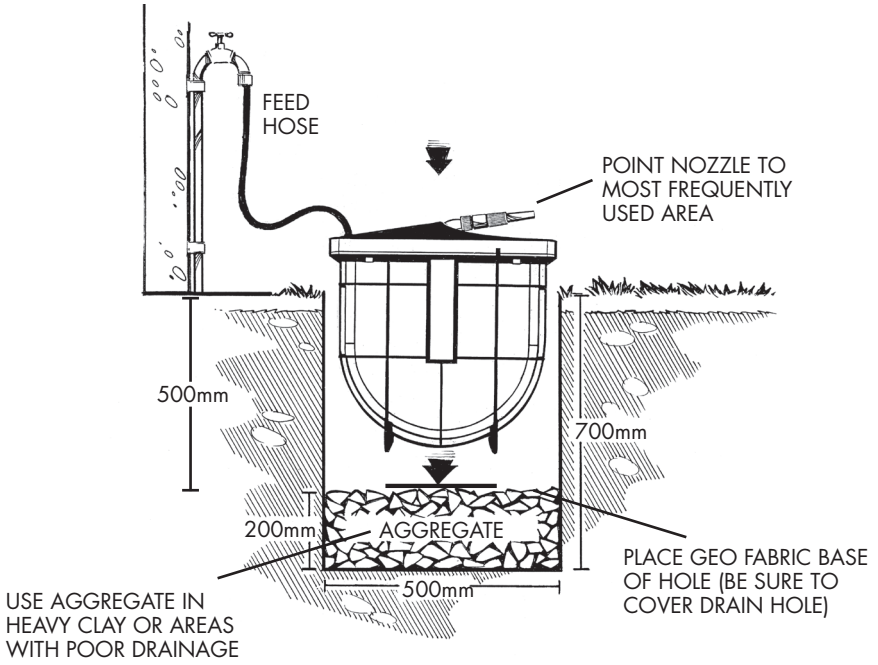

FIGURE.2
- Point the outlet in the most frequently used direction (Fig.2 - pg3).
- Excavate a hole just large enough to fit the unit. Place GEO FABRIC in base of hole, be sure to cover the drain hole.* (Fig.2 - pg3).